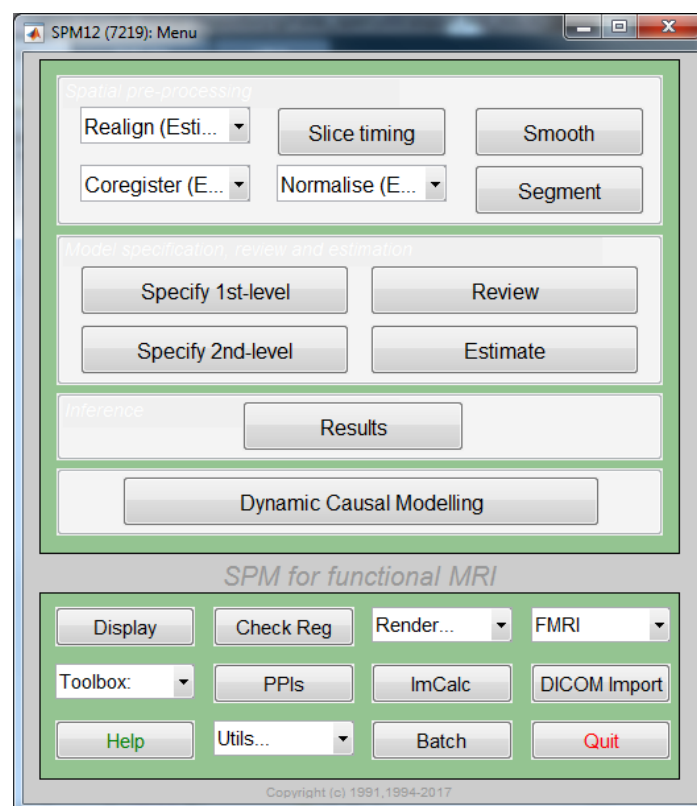

Figure 2: fMRI welcome screen of SPM12
- Choose *Normalize (Est&Wri)* (fig. 2)
- Choose *Segment* (fig. 2); again a batch editor opens. For *Data* choose the co-registered, normalized pre-implantation image (e.g. "wrPatientName.img").